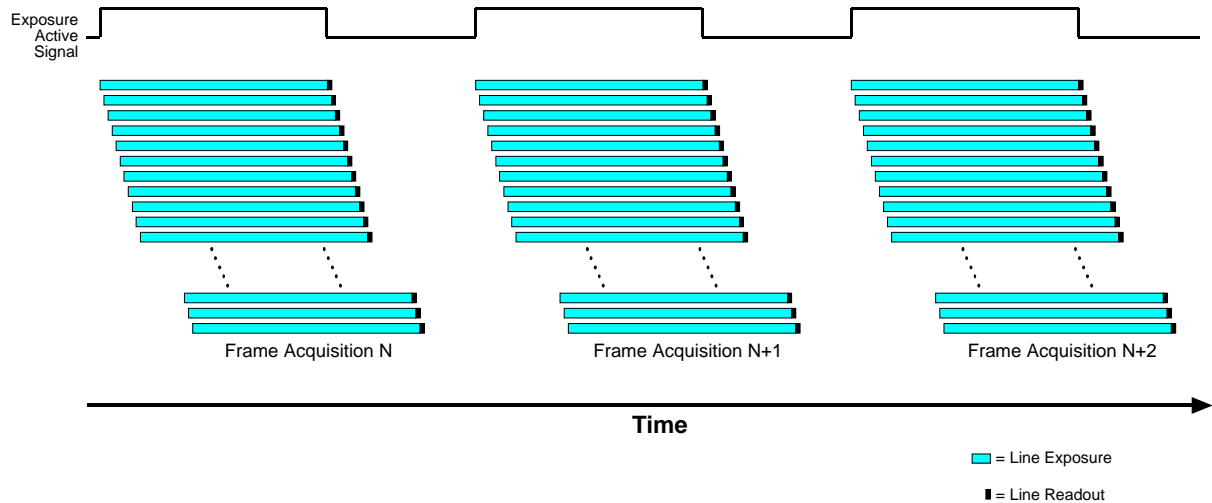

Fig. 80: Exposure Active Signal on Cameras with a Rolling shutter
- low when exposure for the first line ends as shown in Figure 80.